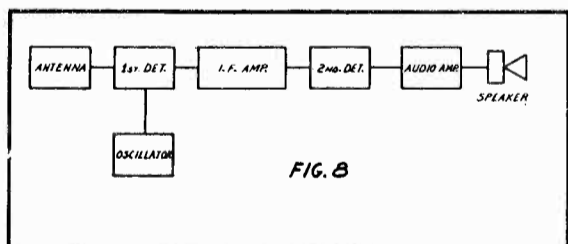

FIG. 8
FIG. 8 shows a block arrangement of the essential units in the superheterodyne. They are, as indicated (1) The antenna, to provide pick-up of energy from the transmitters. It may be either an outside structure or a loop. (2) The first detector or "mixer". (3) The high-gain intermediate-frequency amplifier. (4) The second detector. (5) The audio frequency amplifier. And (6) The loudspeaker. Although the arrangement of parts may differ in various superheterodynes the general principles of operation are the same, and all incorporate the basic components listed above and shown in Fig. 8.